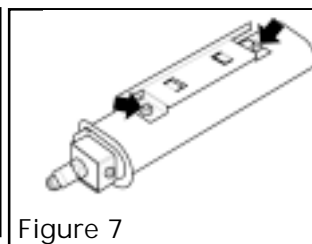

Figure 7
6. Detach the coal locator by removing two nuts. See figure 7.